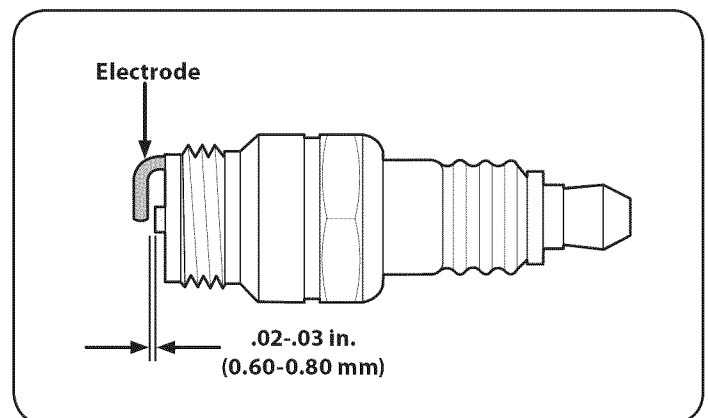

Figure 13
3. Measure the plug gap with a feeler gauge. Correct as necessary by bending the side electrode, Figure 13. The gap should be set to .02-.03 inches (0.60-0.80 mm).